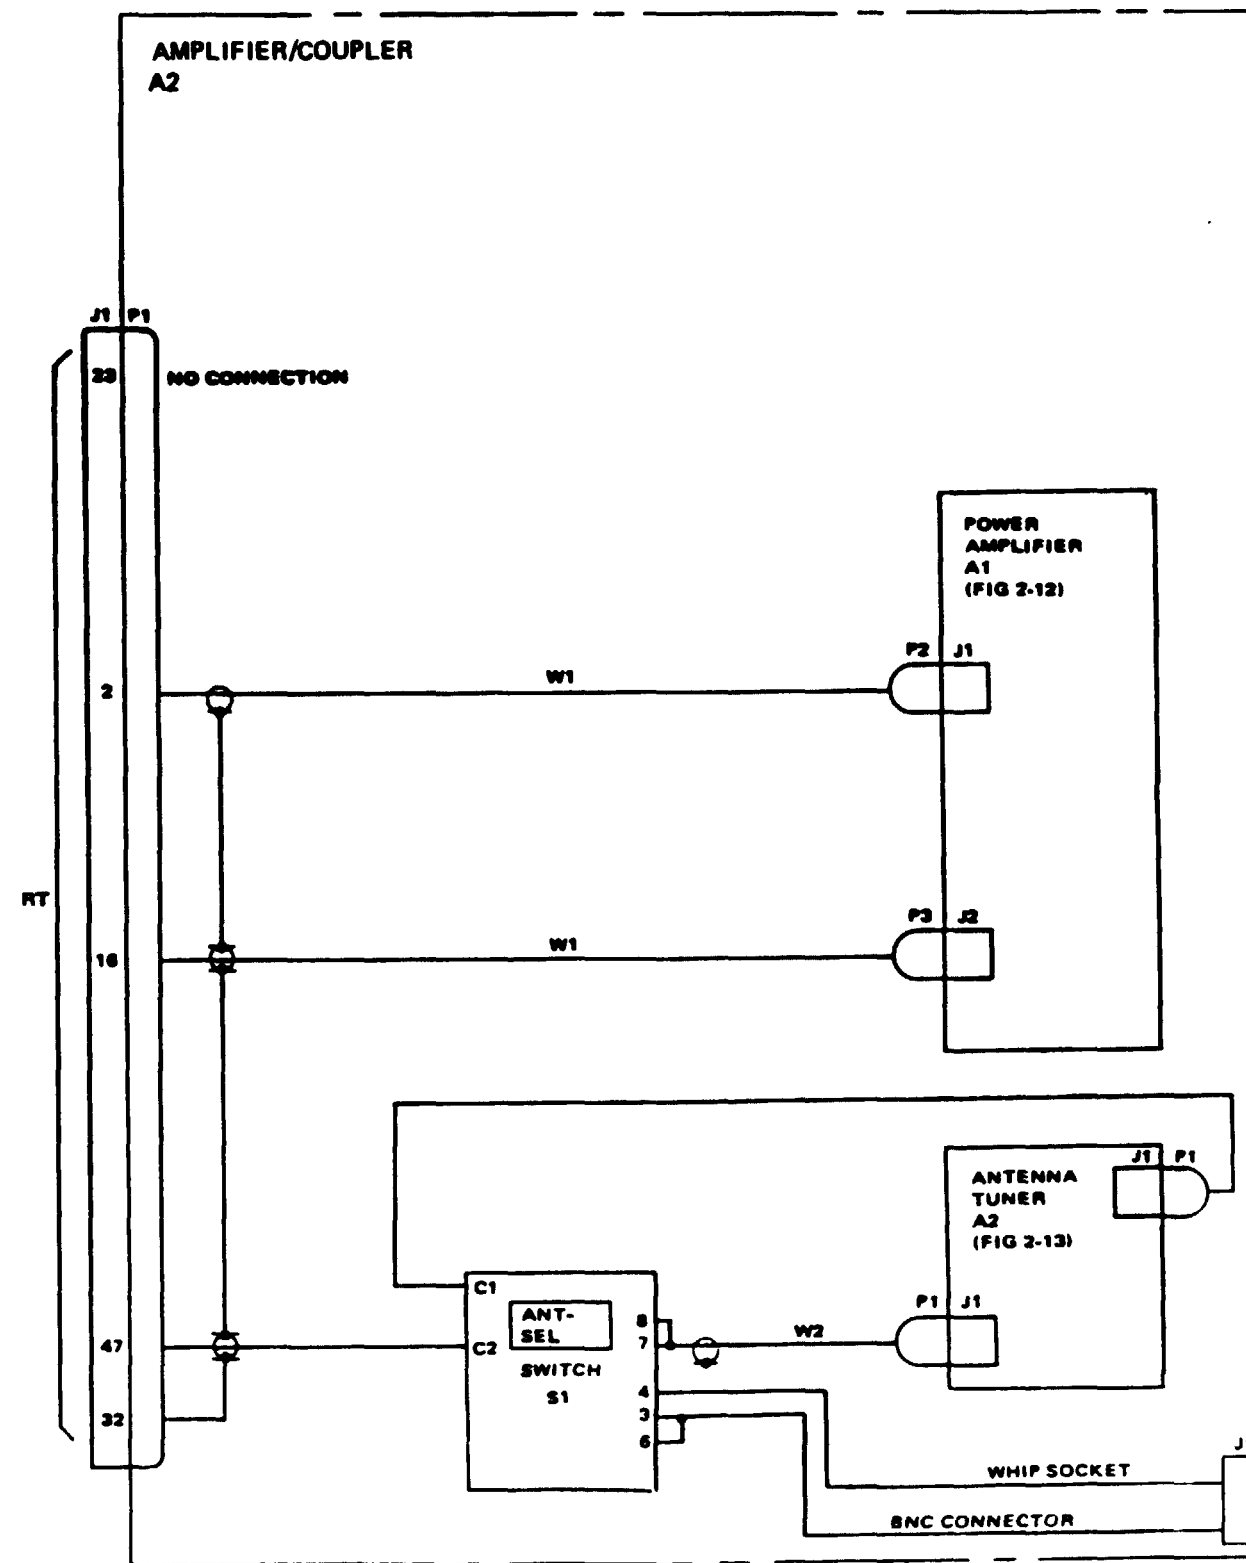

Figure 5-2. Amplifier/Coupler RF Cabling
**AMPLIFIER/COUPLER RF CABLING, fig 5-2**